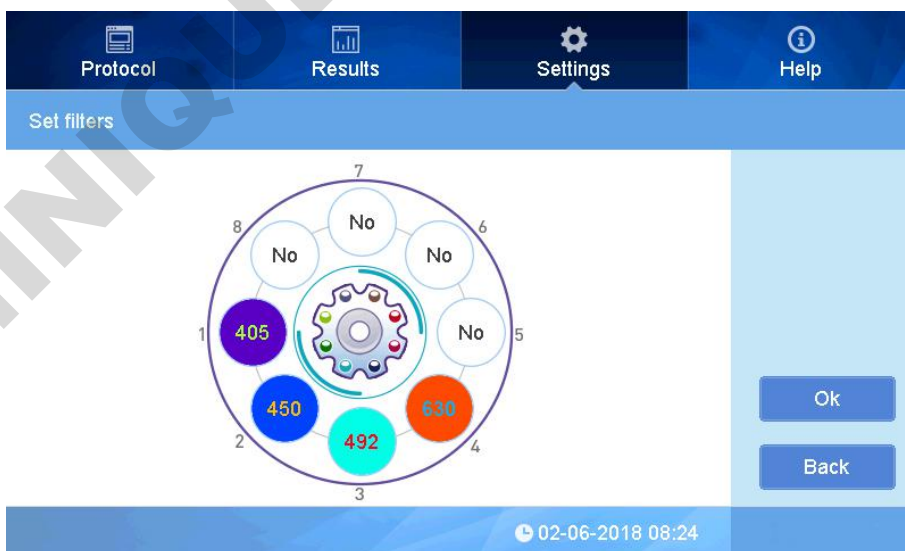

fig 48
- Click Filter icon in interface of setting(Fig 48).